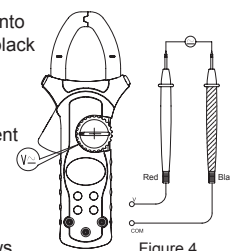

Figure 4
**B. Measuring DC Voltage (See Figure 4)**
**C. Measuring AC Voltage (See Figure 4)**